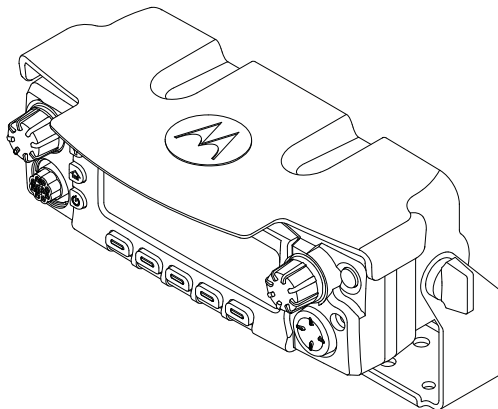

Figure 5-22. Position Control Head as Desired
- Position control head as desired and install screws as shown in Figure 5-22.